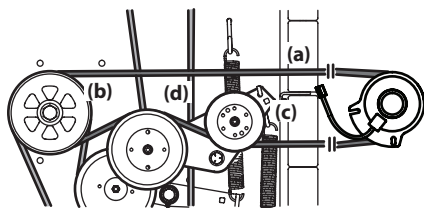

Figure 4-21
1. Remove the PTO belt (a) from the deck as instructed in the Deck Removal section then remove it from around the PTO clutch. See Figure 4-21.
2. Route the PTO belt (a) as shown in Figure 4-21. After routing the belt around the PTO pulley (b), use a 1/2" drive in the idler pulley bracket (c) and turn towards the right of the tractor to finish routing the belt around the idler pulley (d).